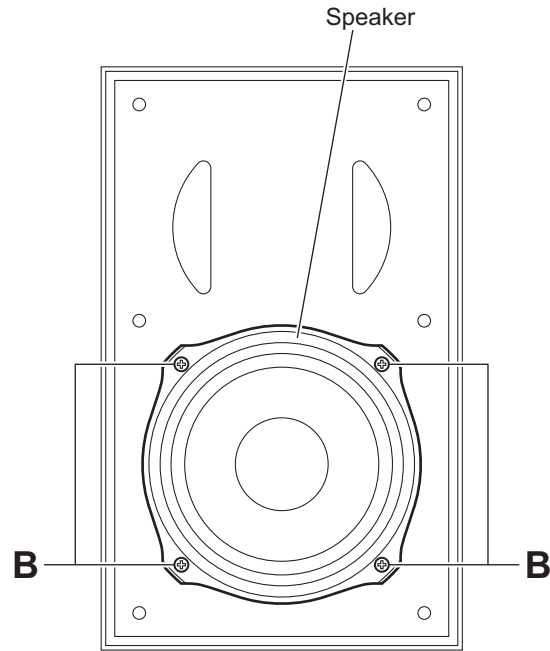

Fig.4
### 3.4.4 Removing the speaker (See Figs.4 and 5)
- (1) From the front side of the speaker main body, remove the four screws **B** attaching the speaker. (See Fig.4.)